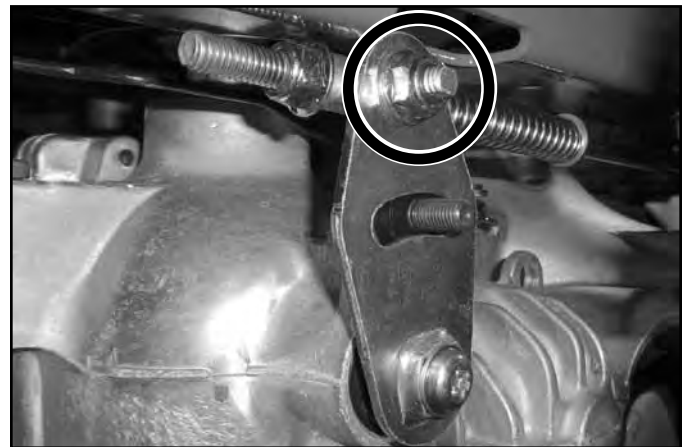

Fig. 058
4. Remove the rear hydro rod mounting nut (Fig. 058).